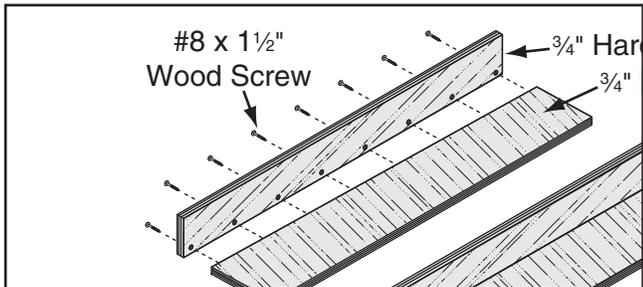

Figure 126. Auxiliary fence complete.
- Fasten the 6" and 3" wide boards with eight #6 x 1/4" wood screws through the holes you drilled in **Step 2**; the fence should look like the one shown in **Figure 126**.